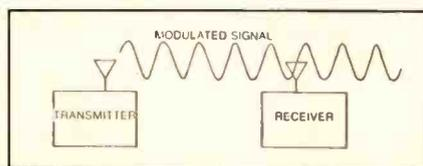

Fig. 6—The transmitted signal is intercepted by the receiver antenna to produce an ac signal voltage for the receiver to process.
Included in most schematic service notes are scope pictures of various signals as they are sampled from test points. The signal is not to be confused with the B voltages that originate in the power supply which activates the equipment. The signal originates in the transmitter (Fig. 6), is processed in the transmitter, flashes through space at the speed of light, produces current in the antenna, and is then processed in the receiver. A signal has many forms, but it basically is an alternating current (AC); B voltages are direct current (DC).